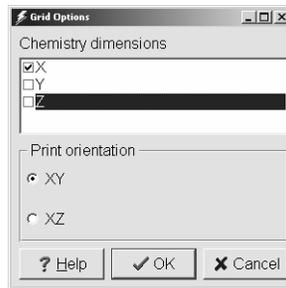

Figure 31. Grid Options dialog box showing selection of just the X Chemistry dimensions.
6. The grid is one-dimensional so the model will be more efficient if the chemistry dimension is specified as X. Select **PHAST Options|Grid Options...** and change the chemistry dimensions to just X (fig. 31). Click **OK** to close the dialog box.